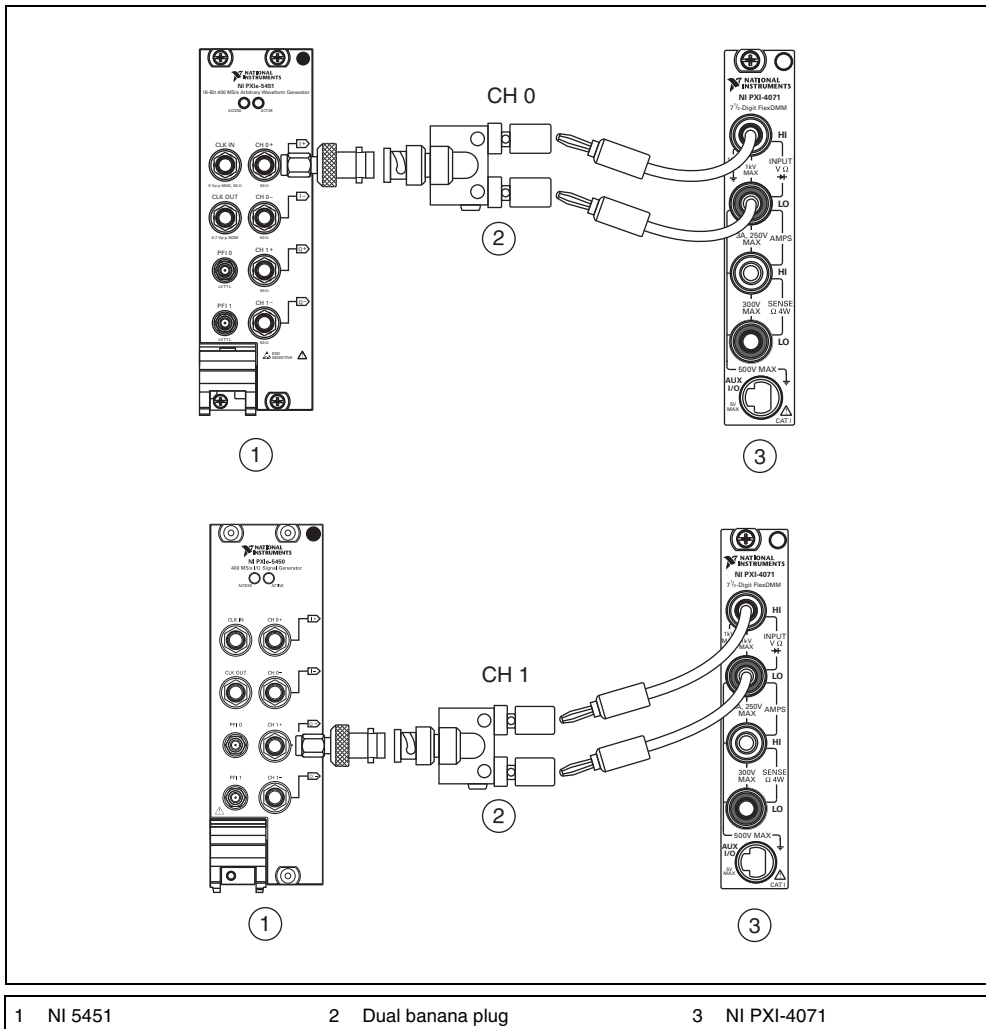

Figure 2. Single-Ended Main Path DC Voltage Amplitude Absolute Accuracy Verification Connections
1. Connect the DMM to the output terminals as shown in Figure 2 for CH 0 to measure the positive channel output with respect to ground.
11. Connect the DMM to the NI 5451 as shown in Figure 2 for CH 1 to measure the positive channel output with respect to ground.